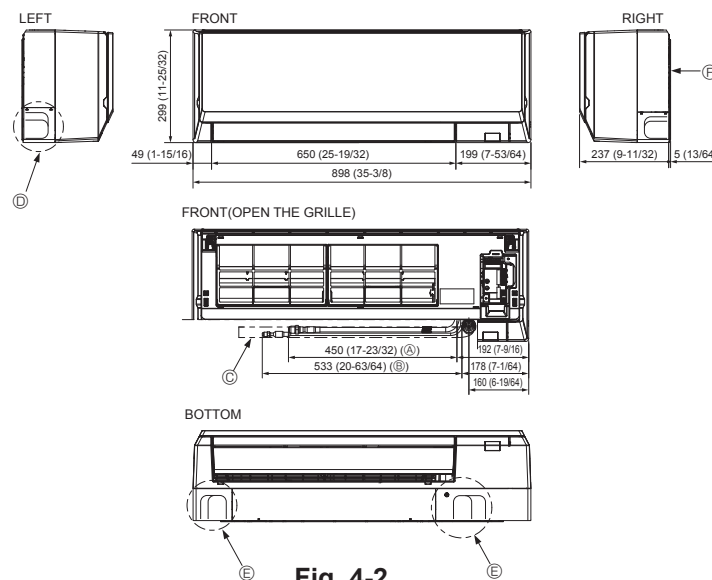

Fig. 4-2
4.2. Positioning refrigerant and drain piping (Fig. 4-2)
- (A) Gas pipe
- (B) Liquid pipe
- (C) Drain hose (Effective length: 500 mm, 19-11/16 inch)
- (D) Left-side piping knockout hole
- (E) Lower piping knockout hole
- (F) Mount board